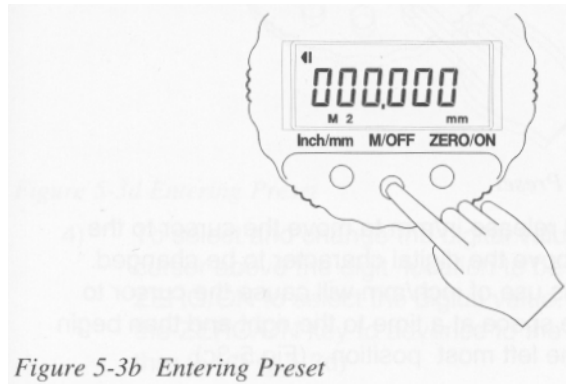

Figure 5-3b Entering Preset
- 2) Press and release M/OFF to display the M2 icon signifying the unit is in the preset entry mode. A cursor will be above the left most digital position. The left most digital position is for the sign and toggles between "-" and blank "+". (Fig.5-3b)